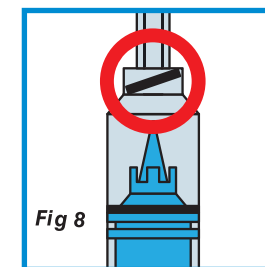

Fig 8
7. Do not overexert when doing injection as this may cause premature retraction of the retractable mechanism or unseat the sealing ring (Fig 8) to result in non retraction of the needle.